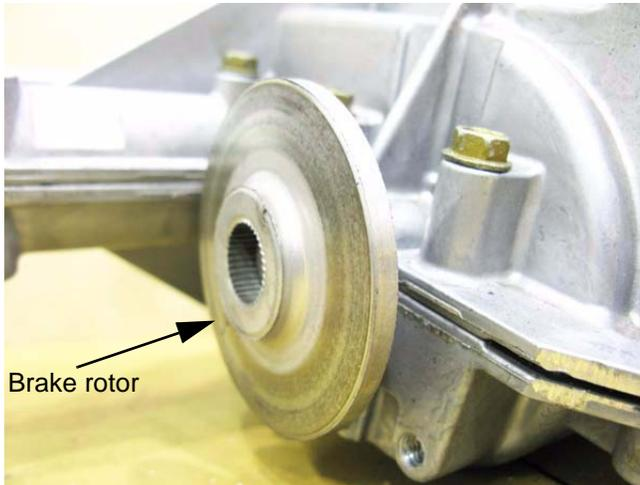

Figure 6.110
- 35c. Install the brake rotor, with the flat side facing the transaxle housing. See Figure 6.110.